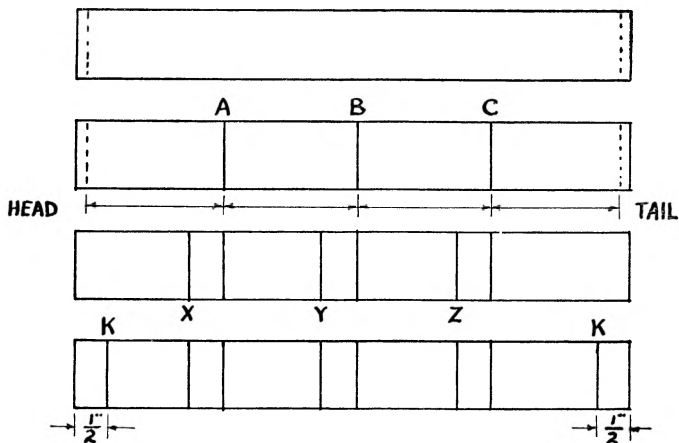

Fig. 43
6. The details of the marking-up are shown in fig. 43. First allow about $\frac{1}{8}$ " at the head and tail—this allows for the trimming of the edges later—then divide the remaining distance into one more space than the number of tapes to be used, e.g., for *three* tapes mark out *four* spaces. Square lines across at these points, A, B, C. On the side of these lines nearest to the head of the book, square across other